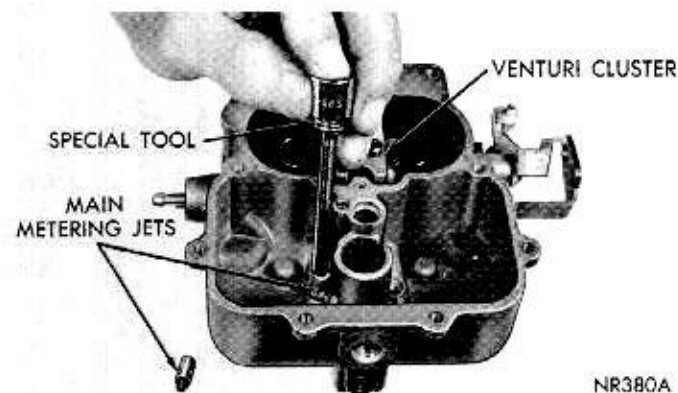

Fig. 5—Removing or Installing Main Metering Jets
(13) Remove main metering jets (Fig. 5).
(5) Install new gaskets on venturi cluster, and install in position in main body. Install cluster screws and tighten securely. Test pump discharge by pressing pump plunger down. Two fine streams of fuel should be forced from cluster. If either stream is restricted or diverted, remove cluster and reclean. After test, pour fuel from the bowl and remove pump plunger.
(6) Install main metering jets. Tighten securely. (Fig. 5).